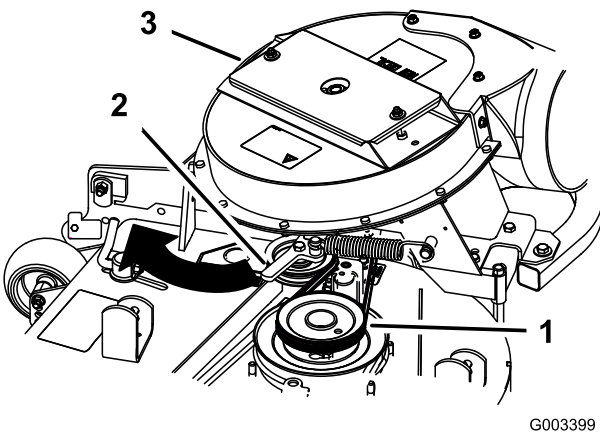

Figure 18
5. Pull the spring loaded idler pulley back and route the belt around the mower deck pulley. Ensure the belt is routed around the blower pulleys correctly (Figure 18).